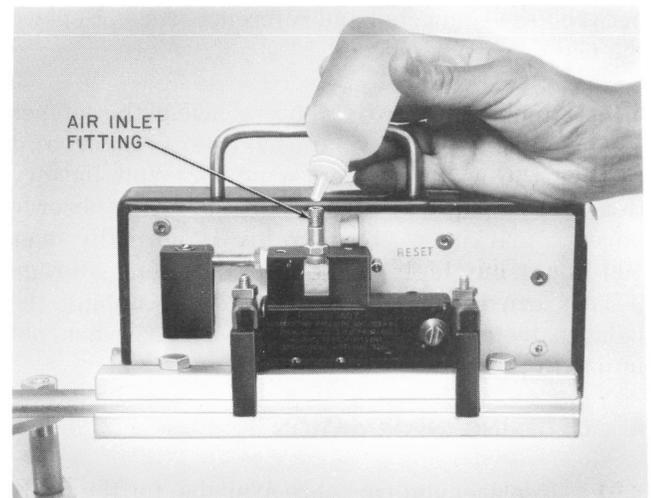

Fig. 11—Lubricating PAIR-A-MATIC
3.11 The CS-10 PAIR-A-MATIC requires more lubrication than the earlier models and *should be lubricated on a daily basis while it is in use*. Several drops of the lubricant should be placed in the air fitting in the back of the tool where the air hose is attached (Fig. 11).